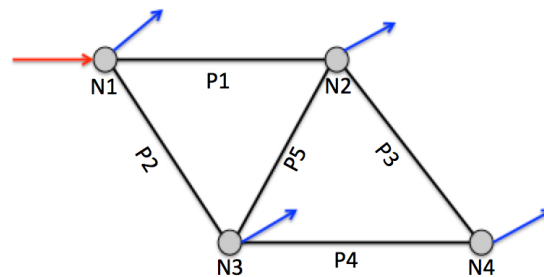

Figure 1. Layout of Simple Network.
- Figure 1 is a five-pipe network with a water supply source at Node 1, and demands at Nodes 1-5. Table 1 is a listing of the node and pipe data.
- An analysis showing the development of the node-arc incidence matrix based on the flow directions in Figure 1,